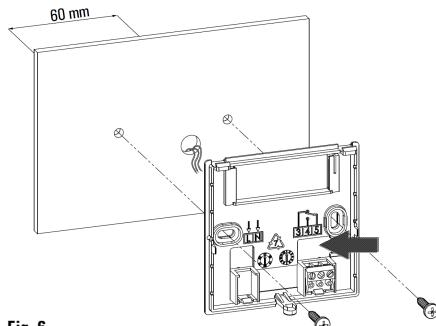

Fig. 6
- 4** Fix the base directly on a wall or on 2-modules wiring boxes through the two screws seats with 60 mm wheelbase paying attention to push the cables through the hole as shown in Fig. 6.